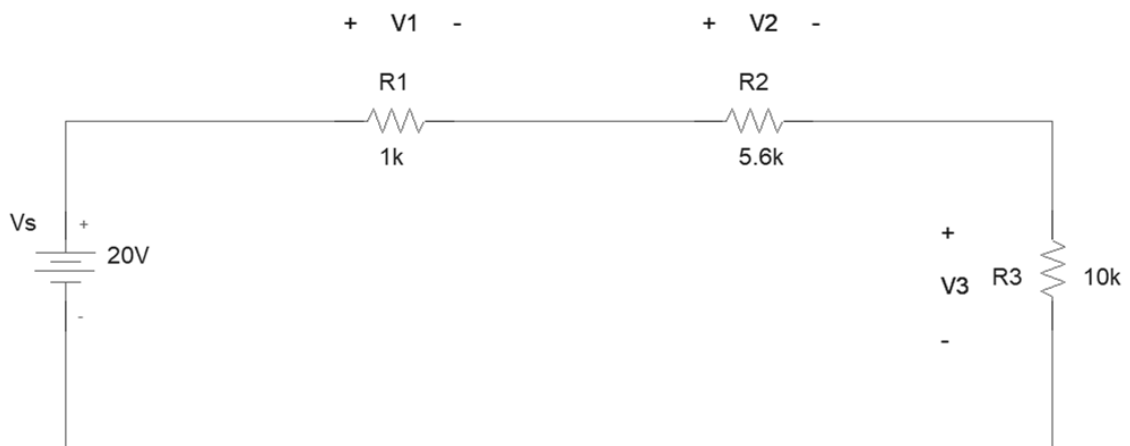

Fig. 1: Series circuit to demonstrate KVL
- Connect the resistors R_1 , R_2 and R_3 in series to a DC power supply as shown in Fig. 1.